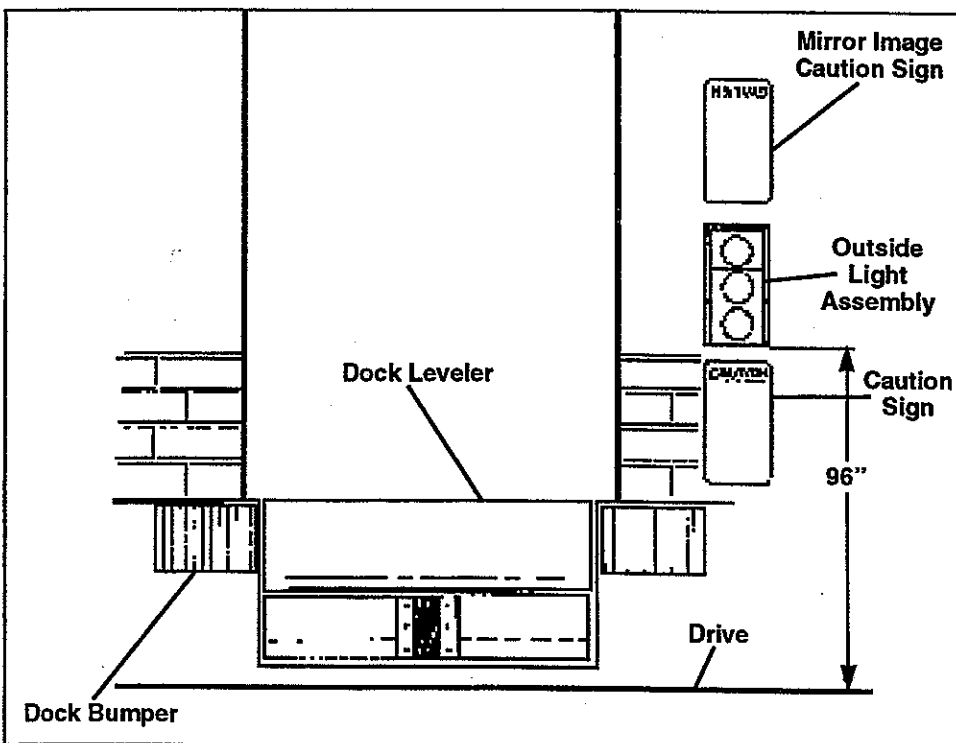

Fig. 16. Outside Signal Light Assembly and Sign Location
28. Install outside signal light assembly on outside wall or other support 8' above drive on truck drivers side of dock leveler. Refer to pit drawing and Figure 16.
30. Install the outside "Caution" signs. See pit drawing and Figure 16.